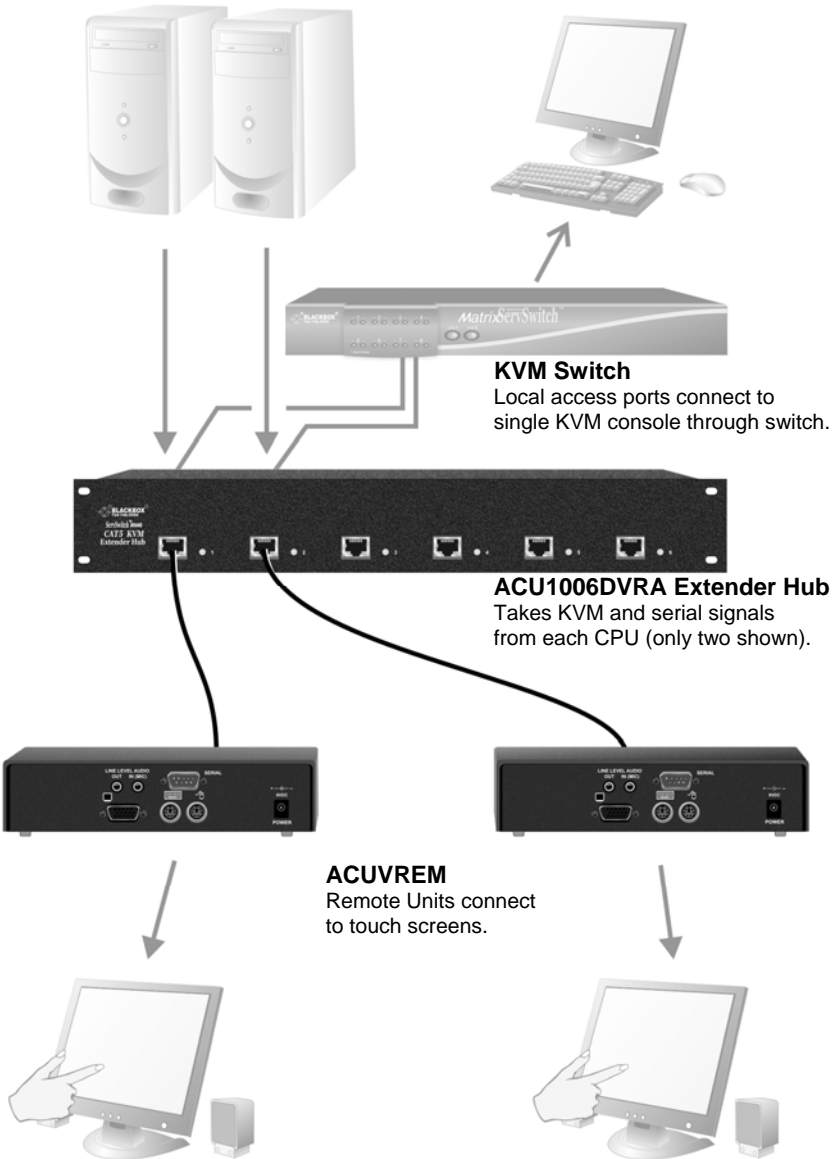

Figure 11 Touch screen network with local access to CPUs through KVM switch.
- Six remote serial touch screens with local access through a KVM switch (Figure 11).